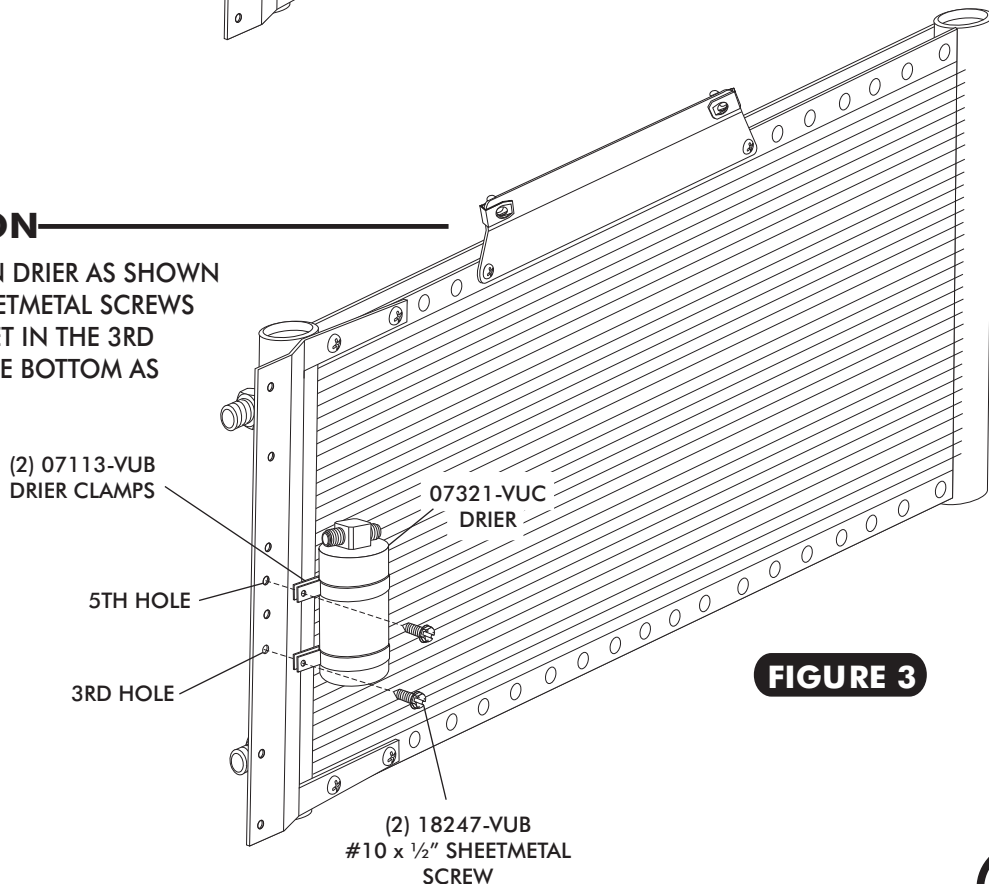

FIGURE 3
- USING (2) #10 x 1/2" SHEETMETAL SCREWS INSTALL DRIER ON BRACKET IN THE 3RD AND 5TH HOLES FROM THE BOTTOM AS SHOWN FIGURE 3.